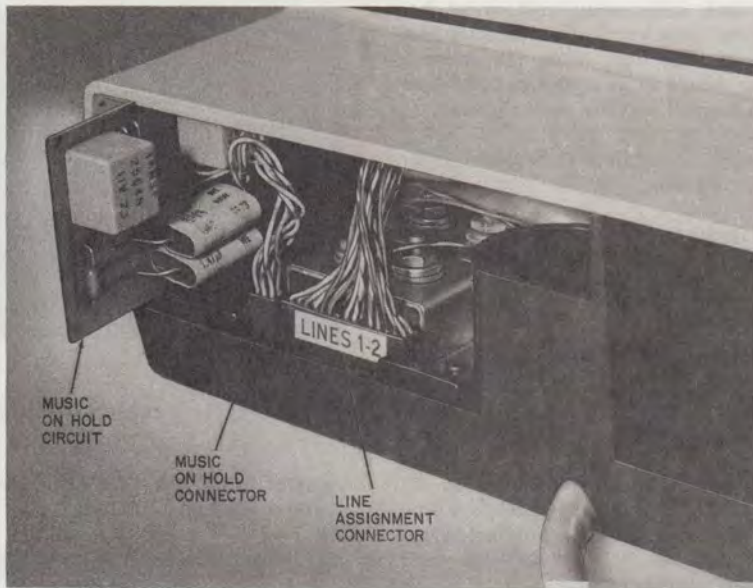

Fig. 6—Line Assignment Connector and Music-on-Hold Board
- (2) Remove line assignment connector (Fig. 6) by pulling straight up until connector clears
(2) Insert music-on-hold circuit board vertically in slots provided in upper and lower housings (Fig. 6).
(3) Plug in connector from circuit board to the pins provided as shown in Fig. 6. The connector may be plugged in either way.
(4) Replace transformer and heat sink assembly.
(5) Plug in power cord.